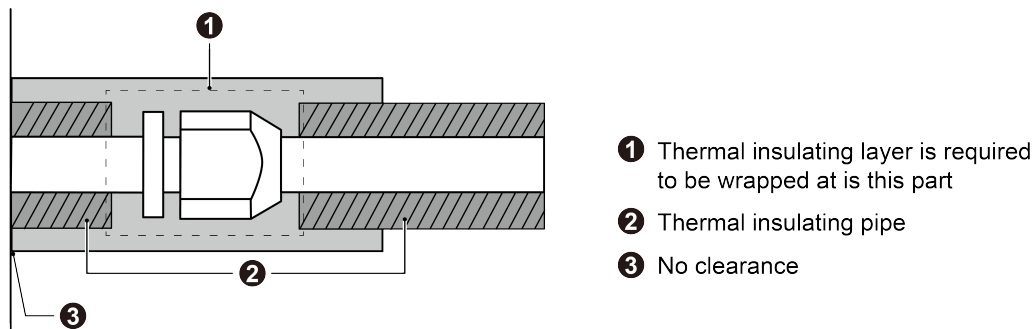

Fig.3.4.7
- 2) Joints at indoor and outdoor units should be wrapped with insulating material and leave no clearance between pipe and wall. See Fig.3.4.7.